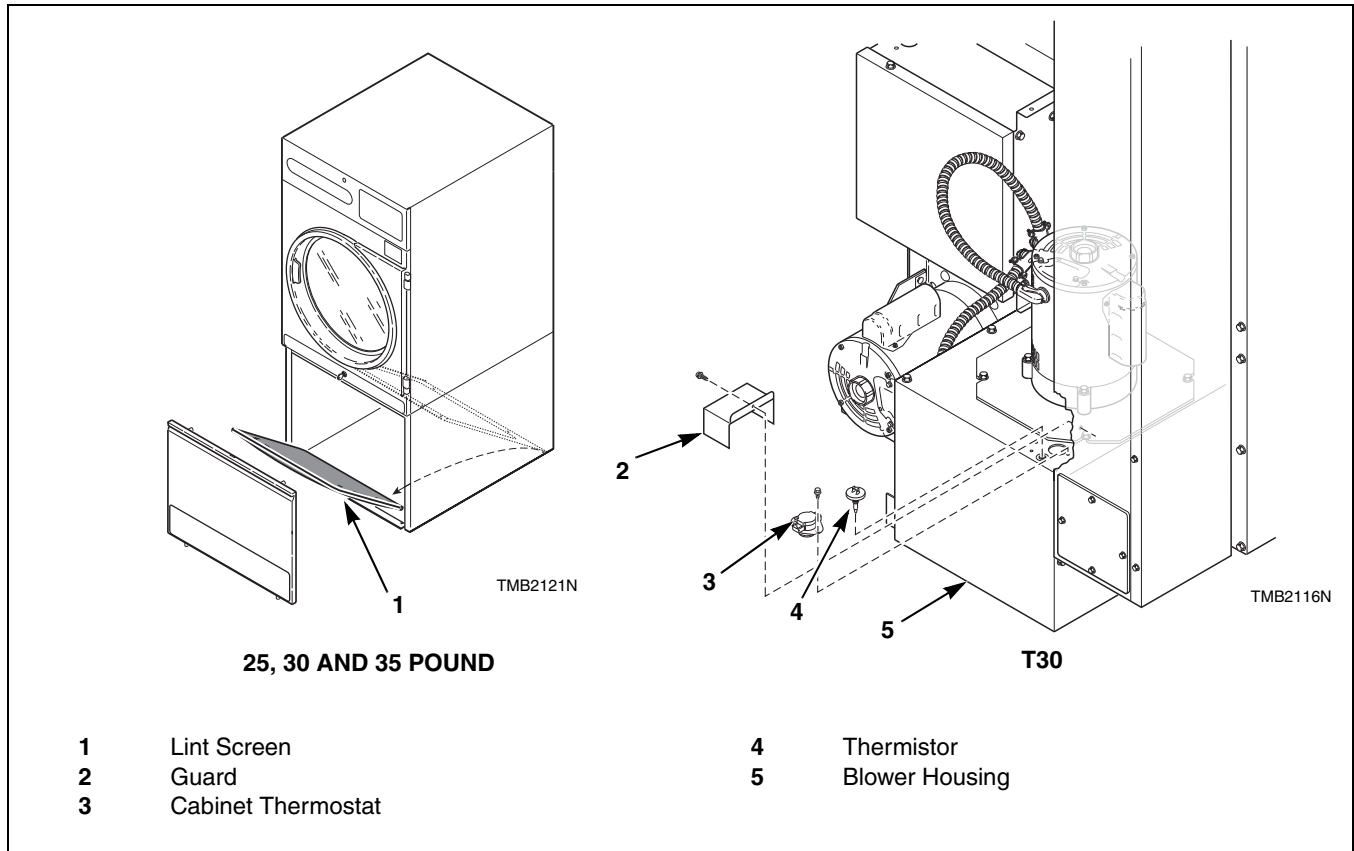

Figure 12
- e. Carefully wipe any accumulated lint off of the cabinet high limit thermostat and thermistor. Failure to do so will allow a buildup of lint in this area to act as an insulator, causing the tumbler to overheat. Refer to *Figure 12*.